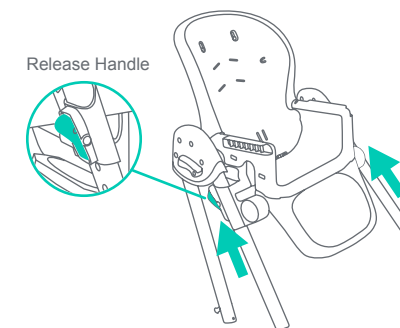

Fig. 6
- 6) • Squeeze the Release Handles on both sides simultaneously and push the tube through the Height Adjusters until it locks in the highest position (Fig. 6).